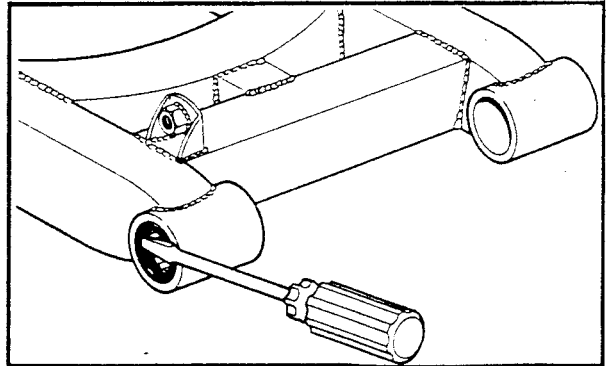

Figure 5-4. O-Ring seal Removal
1. See Figure 5-4. there are two O-ring seals on each side of the two bearings. Pry the seals out with a seal remover or large screwdriver and discard.